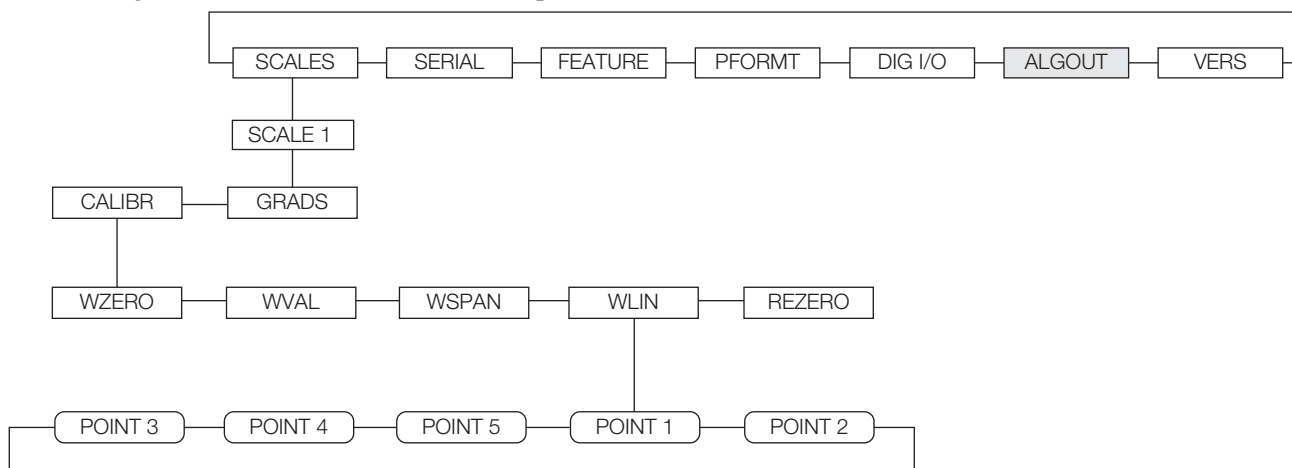

Figure 4-1. Calibration (CALIBR) Submenu
2. With the **SCALES** menu highlighted, press the **Down** key, then select the scale to be calibrated. Press **Down** again (**GRADS** parameter highlighted), then press **Left** to highlight the **CALIBR** submenu (see Figure 4-1). Press **Down** to go to zero calibration (**WZERO**). See Figure 4-2 on page 47.